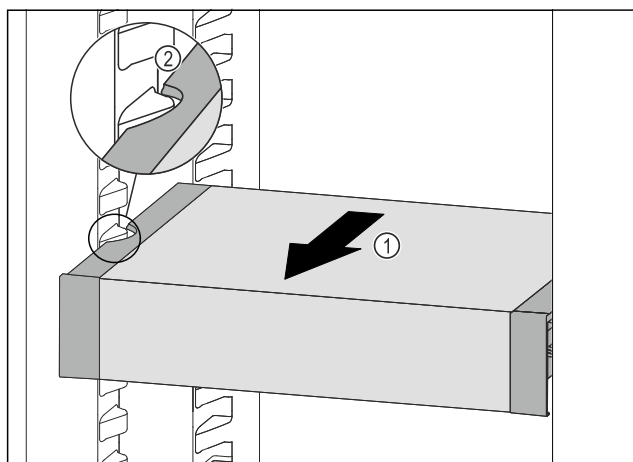

Fig. 82
- Pull VarioSafe forwards Fig. 82 (1) until the recesses in the side of the VarioSafe are at the level of the support rib in the fridge section. Fig. 82 (2)